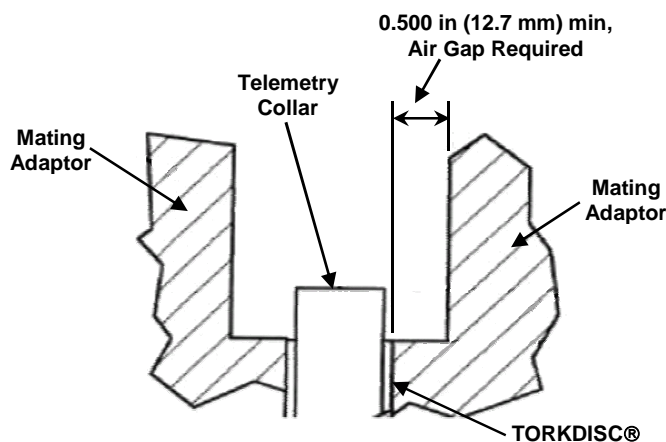

Figure 11 – Stator Loop Air Gap
8. Careful attention is required when installing the stator, as the loop portion that surrounds the non-contacting rotor requires a minimum of a 0.5-inch axial air gap between it and any nearby metallic surfaces (see Figure 11).